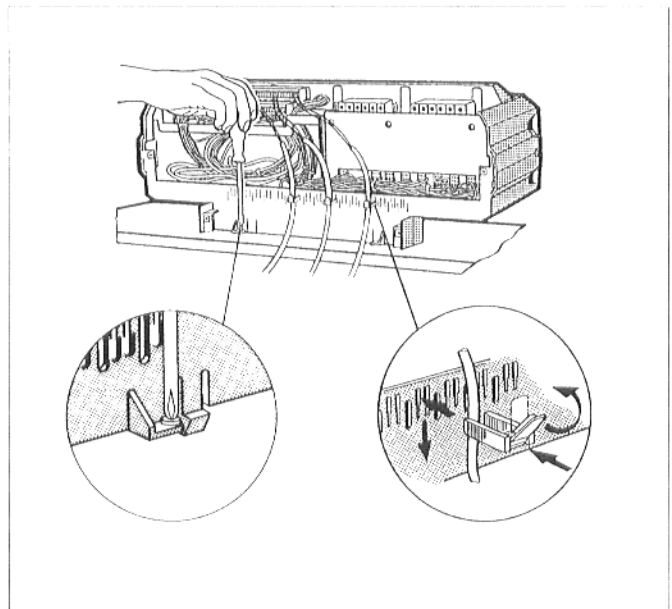

Fig. 11
- Screw on the base of the control panel on the inside of the cable passageway on the right and left with two self-tapping screws on the front boiler hood (Fig. 11).
- Insert the cable clips, with the connection cable in place, in the clip frame and fasten the cable by pushing down the lever (Fig. 11).